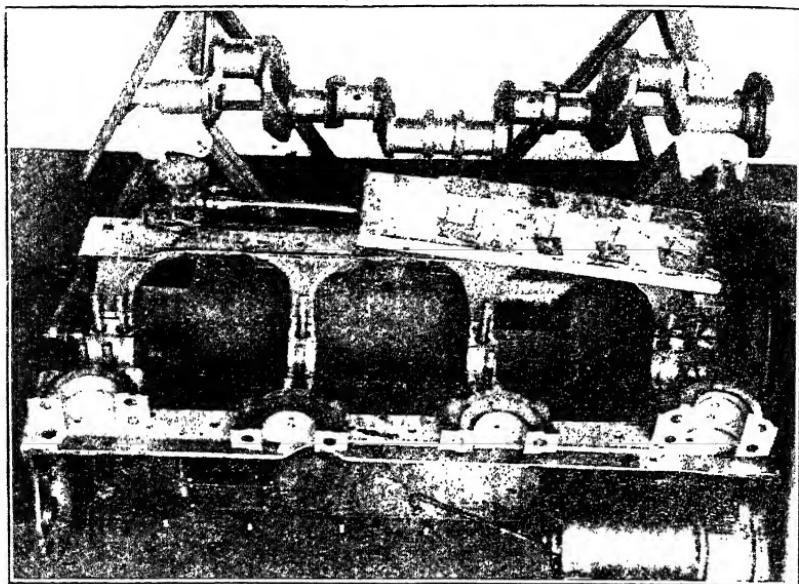

Fig. 16. The Shim Board Is Used To Keep the Shims in Position When Testing Main Bearings
**Handling Shims When Adjusting Bearings.** In a great many cases both in pressure-fed and splash-lubricated bearings, shims are used between the bearing halves. Fig. 16 illustrates the use of a shim board. It will be noted that the workman has driven nails into the board to accommodate the shims which are removed from
**Marking Main-Engine Bearing Caps.** In many cases it is easy to identify the relative position of bearing caps. However, in the case of the front center and rear center main, shown in Fig. 16, this is not so readily done. In order to prevent any possibility of the bearing caps being confused with each other or turned end for end, it is a good plan to use a center punch to mark the bearing caps and crank case. If steel dies for numbering are available, the bearings should be numbered from the front toward the rear. File marks are also used by some mechanics. The main thing is to have some